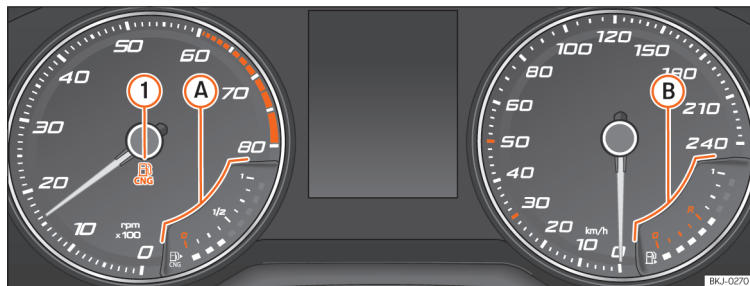

Fig. 75 Analogue instrument panel: natural gas gauge
It lights up green »» Fig. 75 ①